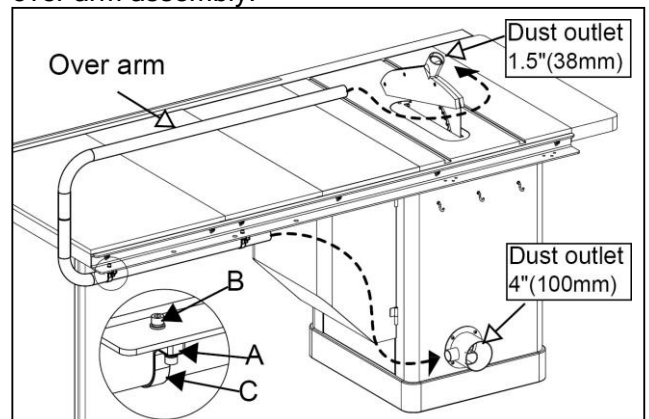

Fig. 19
2. Installation of the over arm (**Fig.19**):
- a. Fit the bracket (A) to the rear rail with screw (B).
- b. Fit the over arm to the bracket (A) with clip (C).